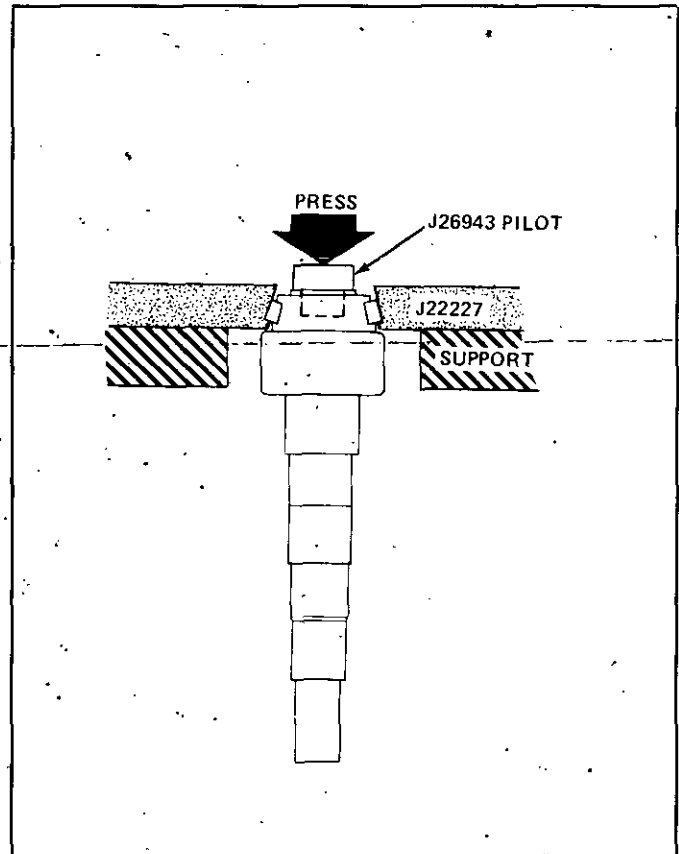

Figure 22 Removing R.H. Bearing (Output)
6. Install J-22227-A on the R.H. bearing and remove the bearing by pressing on J-26943 pilot (Figure 22).